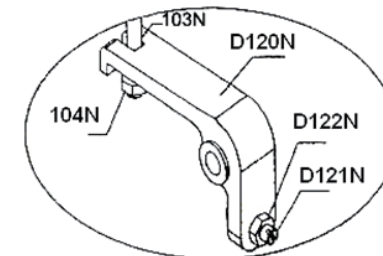

Fig. 2
4. Raise the lever plate (D120N) and insert the bolt (103N) into the front slot keeping the nut (104N) on the underside of the lever plate (D120N). See Fig. 2.
1. The adjusting screw (D121N) (Fig.2) is designed to adjust the 3 control positions. Use a wrench and a slotted screw driver to loosen the nut and turn the adjusting screw clockwise, or counter-clockwise, in order to leave 4-5 threads out after the nut is secured on the lever plate (D120N). Check to see if the pallet jack works correctly in the 3 control positions. If more adjustments are necessary, proceed to the following steps.